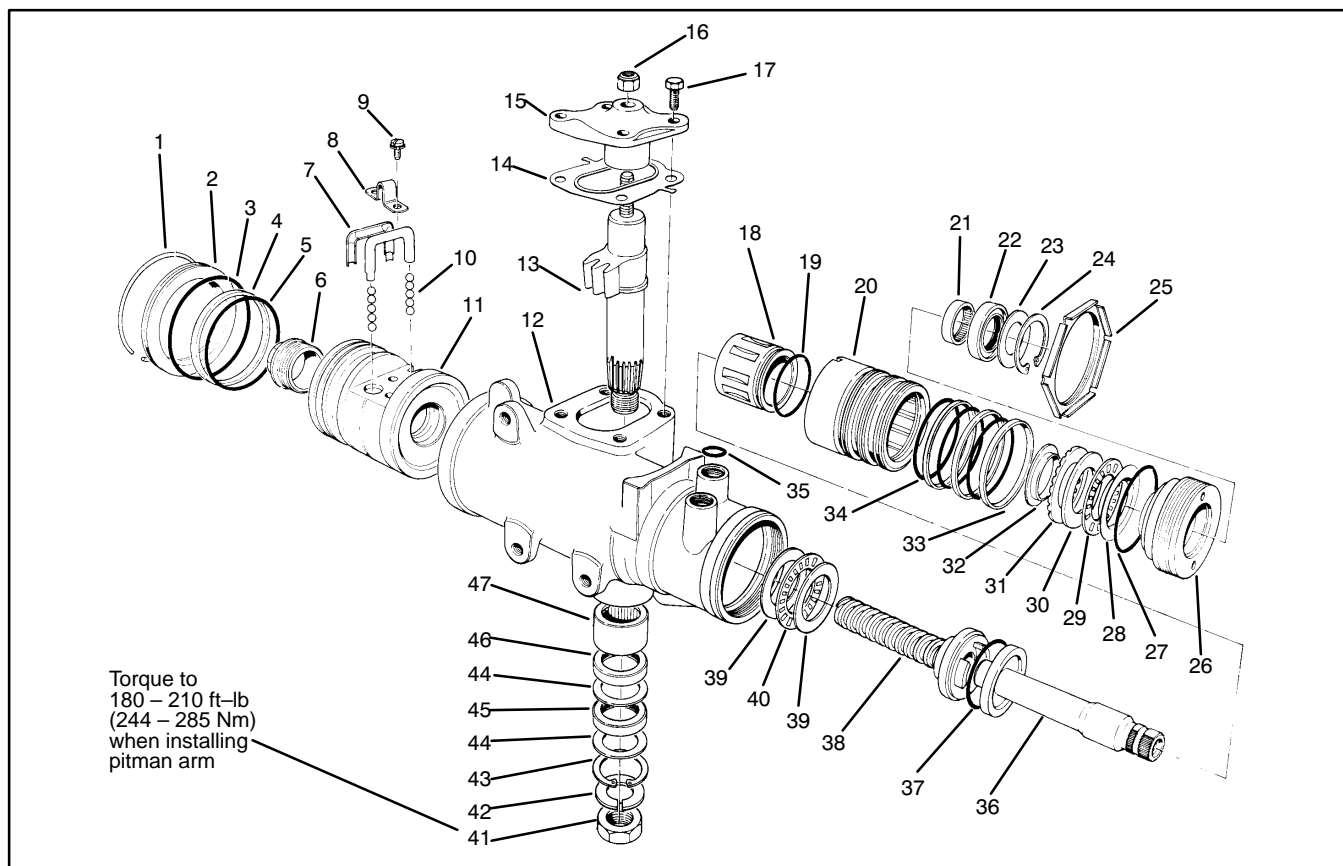
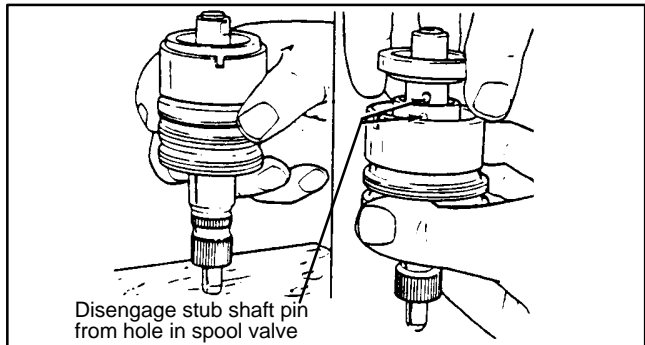

Figure 30
Figure 37
4. Install a compression spring tool rod through holes in each spring cradle (Fig. 30, Item 1), then install nuts and washers on both ends of each rod. Tighten one nut on each rod to secure springs (Item 2). NOTE: Extended portion of each compression spring tool must be on opposite ends so capscrews (Item 7) can be removed.
3. Remove plug (Item 6) from rack piston (Fig. 30).
A. Insert ball retainer tool into rack piston bore with pilot seated into end of worm (Fig. 30).
1. Lubricate 11 balls (Fig. 37, Item 10) with hydraulic fluid, then install alternately by color into rack piston. Use ball retainer tool to hold balls inside (Fig. 30).
3. Connect ball guide (Fig. 37, Item 7), clamp (Item 8) and screws (Item 9) to rack piston (Item 11).